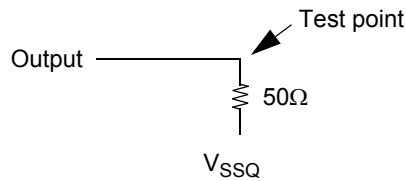

Figure 2 : Pull-up slew rate test load
- a. Pull-up slew rate is characterized under the test conditions as shown in Figure 2